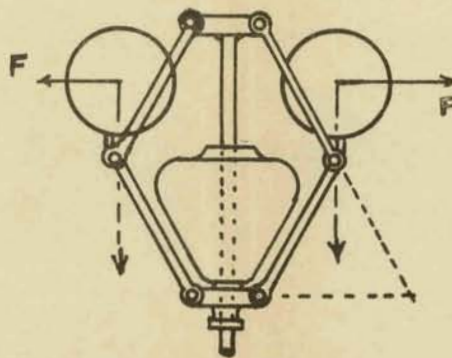

Fig. 4
4. Figure 4 is a scale drawing of a loaded governor. The radius in which the balls run is 7 inches. Find the force F necessary to maintain the configuration shown and hence determine the speed of the governor. The weight of each ball is 20 lbs. and the load is 80 lbs.